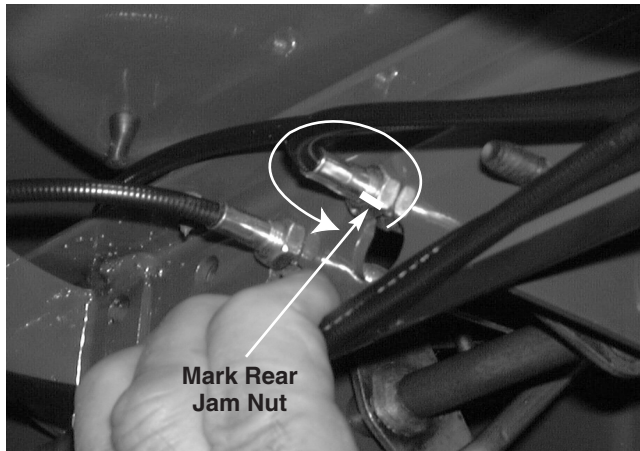

FIGURE 11.
- 38). Looking at the line that was marked on the rear jam nut, loosen the rear jam nut 2 complete rotations using a 1/2" wrench. See Figure 11.